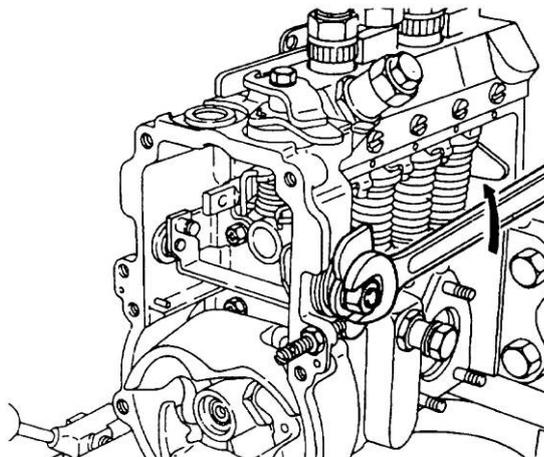

Figure 93 Full-load Setting Lever Retaining Nut
- p.** Remove the nut securing the full-load setting lever to the U-shaped lever (Figure 93) and remove the full-load setting lever together with the return spring.